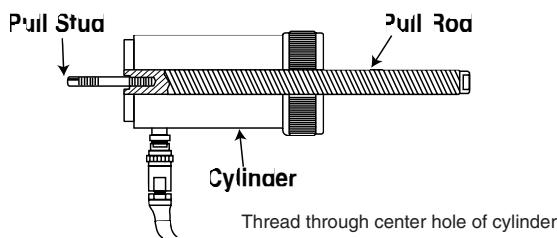

Figure 3
- Attach the pull rod to the cylinder by inserting the pull stud into the plunger opening and threading until the pull stud extends beyond the coupler end of the cylinder. (Figure 3)